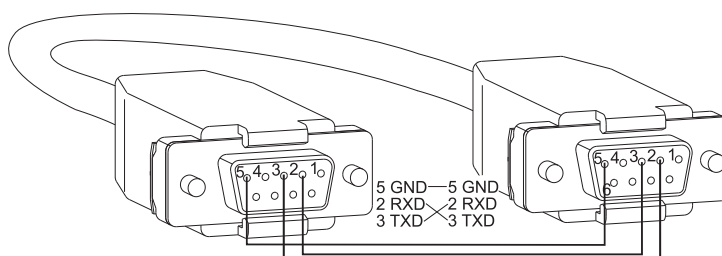

FIG. 5 RS-232 null modem pin diagram, no hardware flow control
1. Use a null modem cable that matches the pin diagram in FIG. 5 for RS-232 without hardware flow control. AMX AutoPatch equipment requires pins 2, 3, and 5 only.